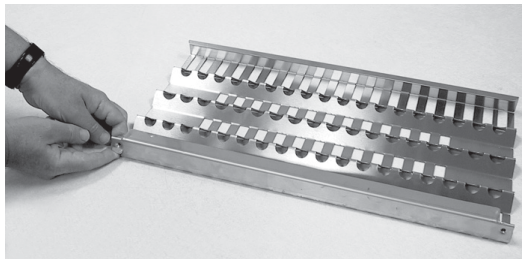

FIG. 20
2. Unlock radiant end cap by pushing it up with two fingers (Fig. 20).
- a) Unlock radiant end cap by pushing it up with two fingers (Fig. 20) or pliers may be used.